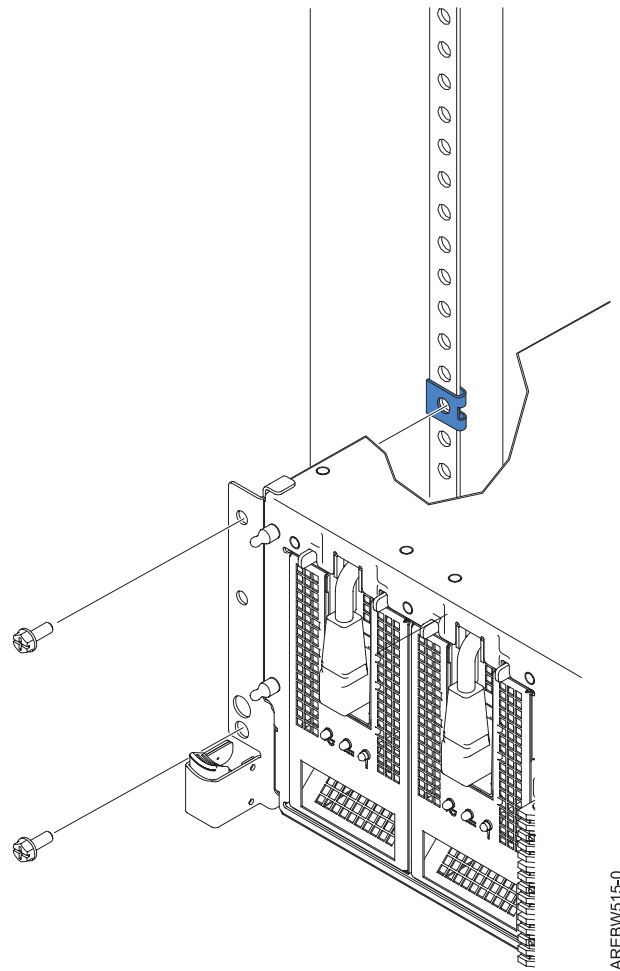

Figure 7. Secure system to rack through rack latches
- Secure the system to the rack through the rack latches. Install the top screw, then install the front bezel. Next, install the bottom screw through the front bezel. Use the retaining screws to attach the system to the rack as shown in Figure 7.